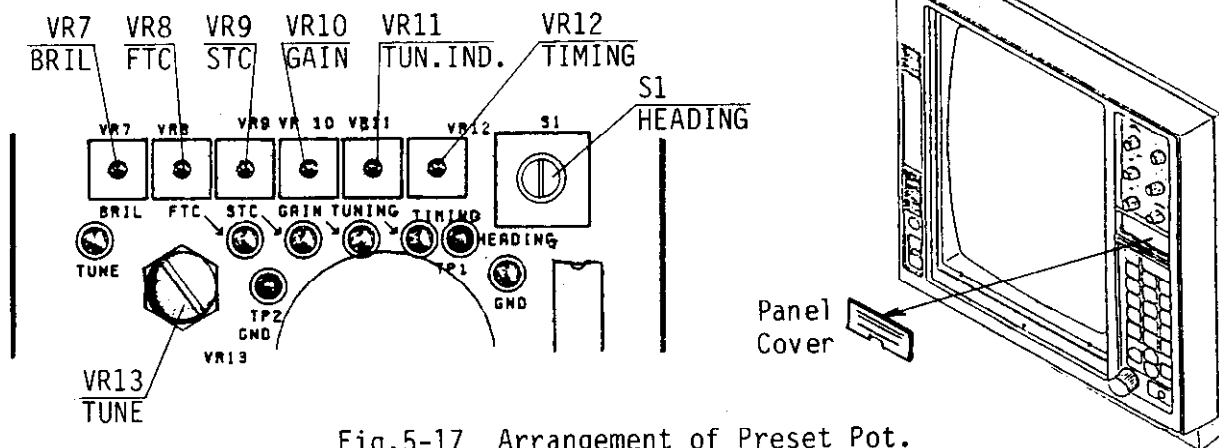

Fig.5-17 Arrangement of Preset Pot.
6. Both the bearings "A" and "B" should be same. If the difference is within $+5^\circ$, adjust rotary code switch S1 (HEADING, working range $+5^\circ$ in steps of 0.7° . Clockwise rotation shifts the picture CW.) See Fig.5-17 for the location of S1.
3. Adjust VR13 (TUNE) so that a comparatively weak long range echo is discerned with maximum definition. See Fig.5-17 for the location of VR13.
4. Adjust VR11 (TUN.IND) so that four tuning markers of the tuning bar light up with the fifth marker blinking. See Fig.5-17 for the location of VR11.
The minimum brightness of the CRT can be adjusted to suit operator's needs, by adjusting VR7 (BRIL). See Fig.5-17 for its location.
Adjustments of preset gain, A/C sea and A/C rain are shown in this section. If the radar does not meet the following conditions, adjust corresponding preset potentiometers VR10 (GAIN), VR9 (STC) and VR8 (FTC). See Fig.5-17 for its location. Set the controls as below.